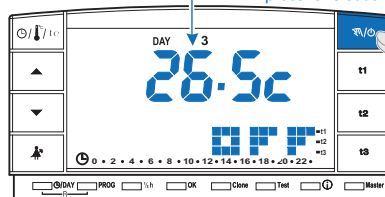

fig. 59
- Keep “” pressed (approx 6 sec.) to enable this function, until **OFF** appears on the display to indicate that the chronothermostat has been disabled (e.g. fig. 59).